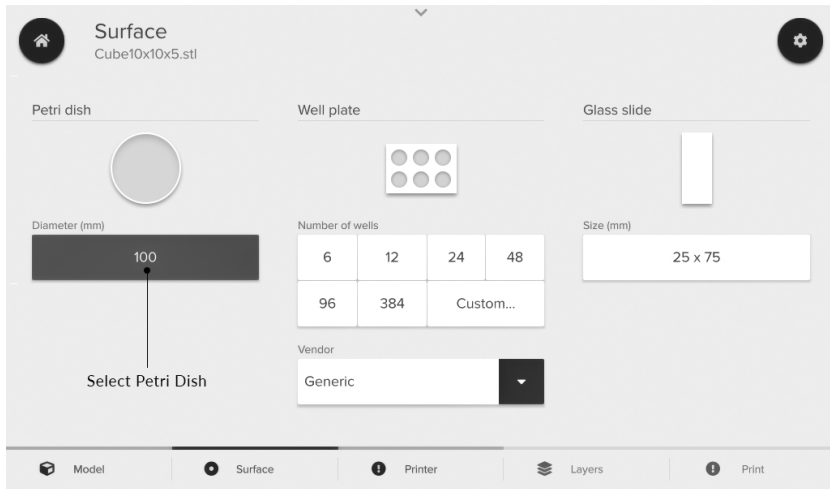

Figure 11: Select a print surface from the Surface menu.
4. Select a surface to print on (Figure 11). Proceed to the next menu.